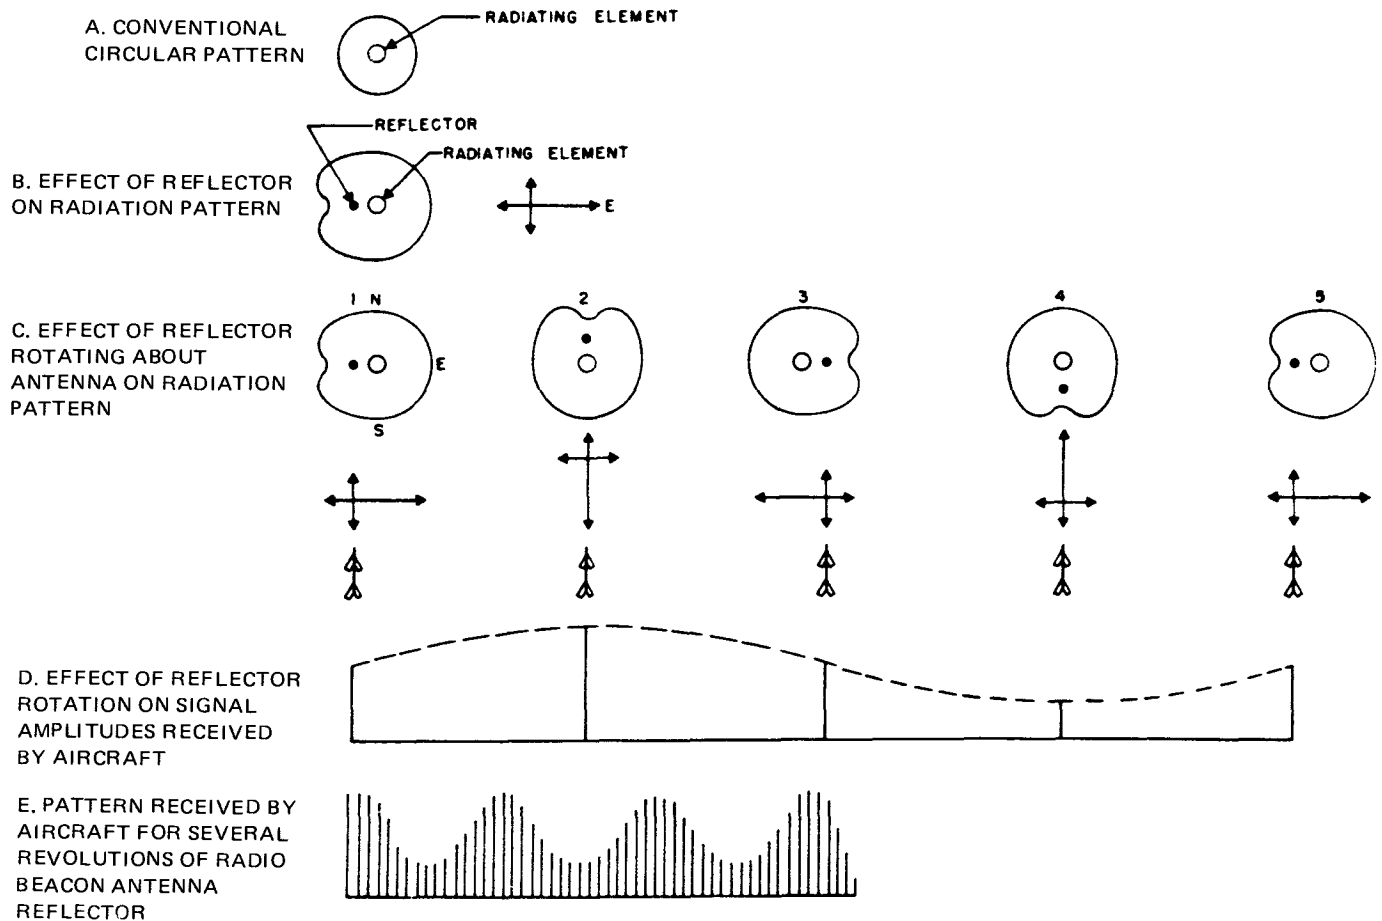

Figure 4-2. Development of Radio Beacon Radiation Pattern
(a) 15-CPS AMPLITUDE MODULATION. —A 15-cps amplitude-modulation component is imposed on the r-f energy radiated by the beacon antenna. Figure 4-2 shows how modulation is imposed on the field of r-f energy radiated by the antenna.
Waveshape A in figure 4-2 shows a conventional circular antenna pattern. Waveshape B in figure 4-2 shows the same antenna pattern as it is affected when a fixed reflector is placed in the field of energy radiated by the antenna. The pattern becomes a cardioid. The field of r-f energy is at its maximum in the direction (E) opposite to the reflector.
When the reflector is rotated about the radiating element of the antenna the effect is a cardioid pattern, similar to waveshape B, shown in figure 4-2, which rotates about the axis of the antenna at the same rate as the reflector. Waveshape C, shown in figure 4-2, shows five of the positions taken by the antenna pattern during the 360-degree rotation of the reflector. In the case of pattern No. 1, an aircraft located at a position due south of the beacon antenna would receive a half-amplitude signal. If the antenna were rotated through 90 degrees (pattern No. 2), the same aircraft would receive a signal at maximum amplitude. Rotating the antenna another 90 degrees (pattern No. 3) would cause the aircraft to receive a half-amplitude signal of diminishing strength. Still another 90-degree rotation of the antenna (pattern
The relative amplitudes of the signals received by the aircraft for one complete revolution of the antenna reflector are shown for comparison purposes in waveshape D of figure 4-2. Although the total beacon output is of constant amplitude through the full 360-degree rotation of the reflector, the signal received by an aircraft at any given point around the beacon will vary in amplitude, as explained above.
The amplitude variation of the envelope of the pulses received by the aircraft follows a sine-wave (approximate) pattern (waveshape E of figure 4-2), the frequency of which corresponds to the rate of rotation of the reflector around the antenna. Since the reflector rotates about the beacon antenna at a 15-cps rate, an aircraft at any given point in space within range of the beacon will detect the complete sine wave 15 times per second. Note that a 15-cps rate of rotation corresponds to 900 revolutions per minute (rpm).